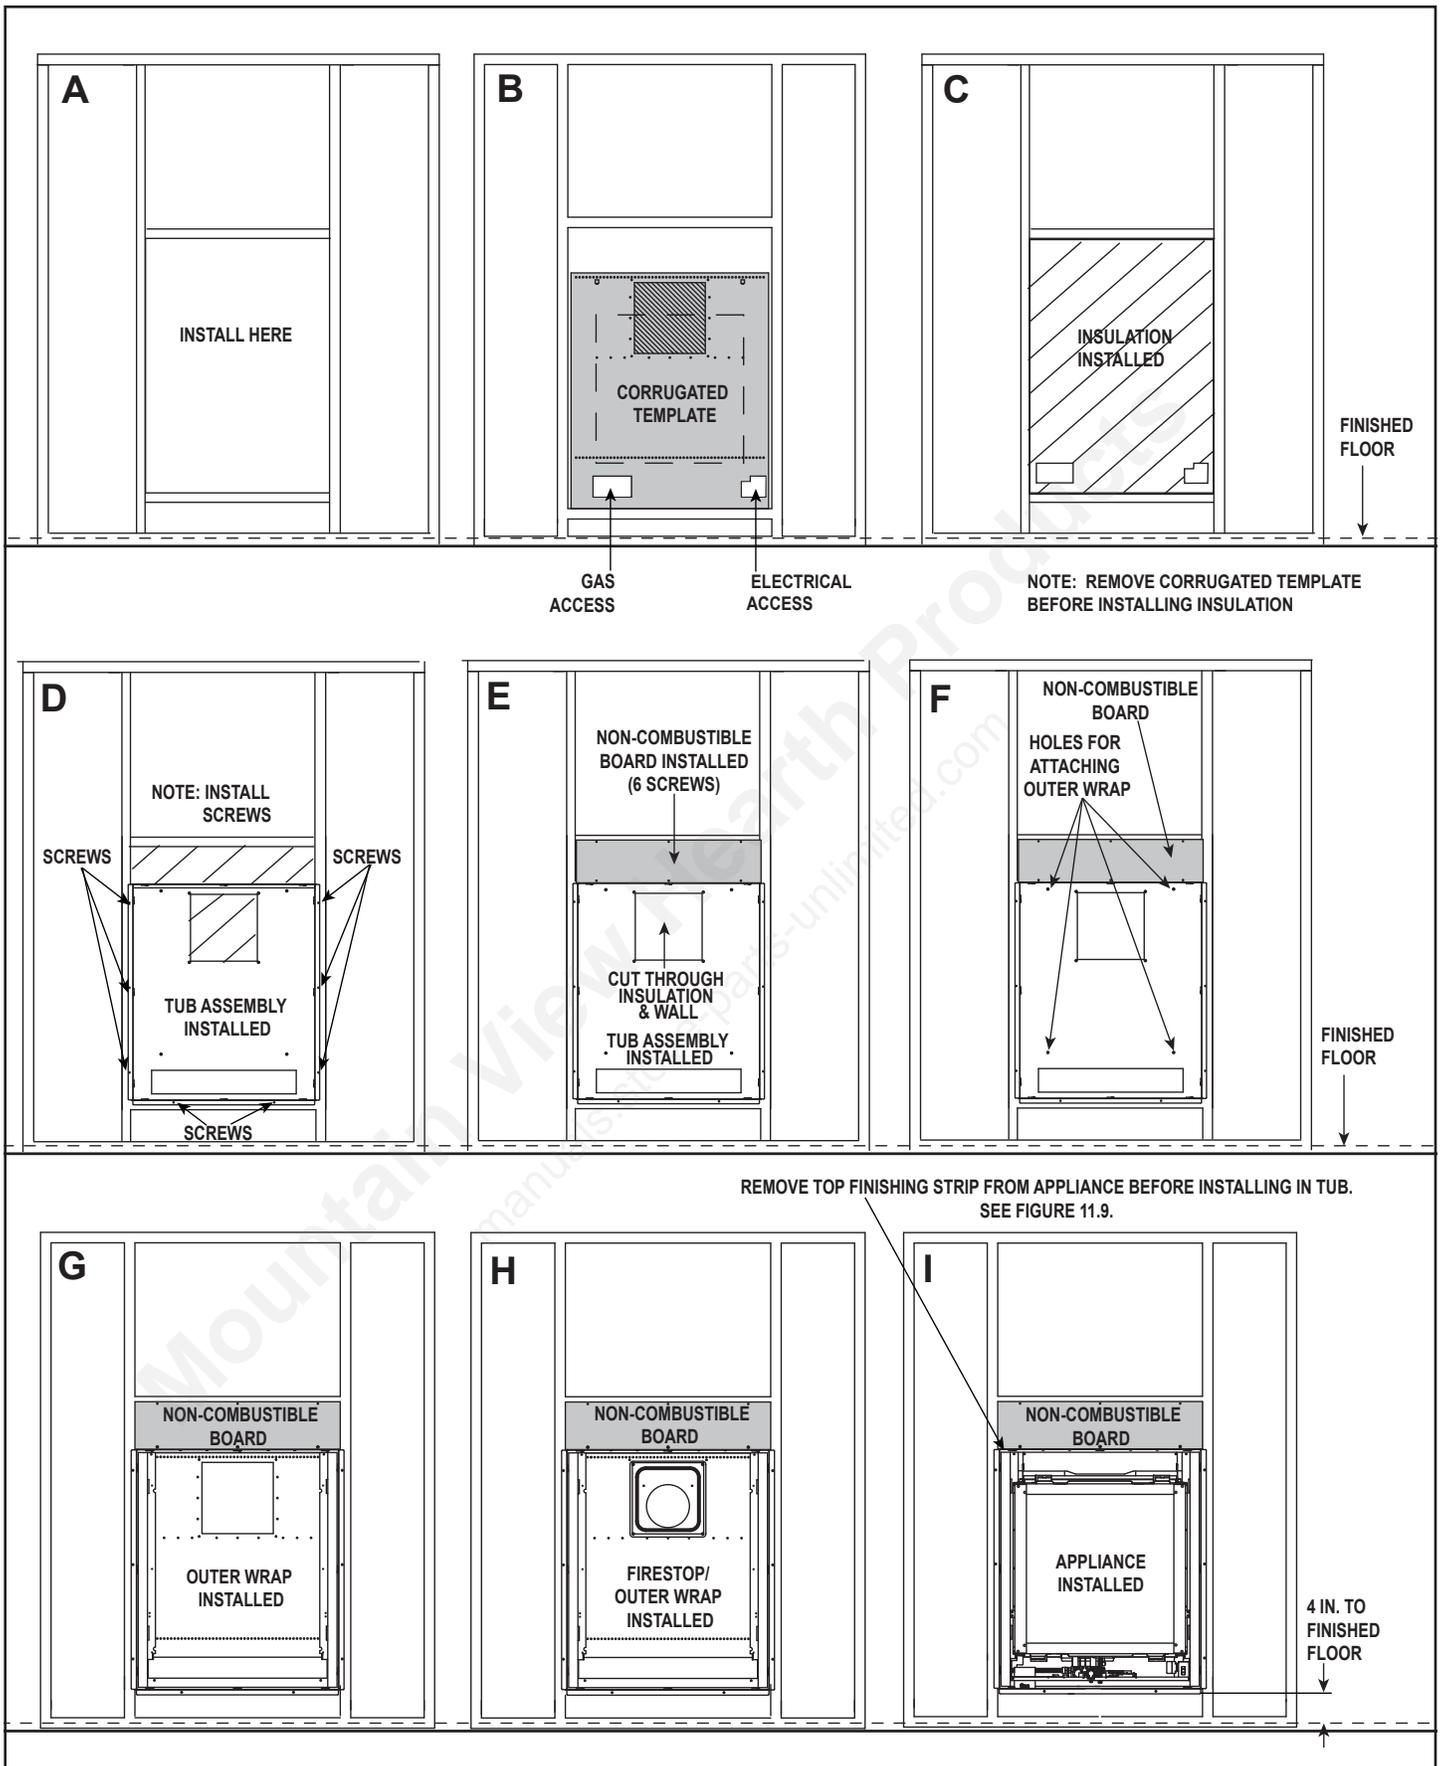
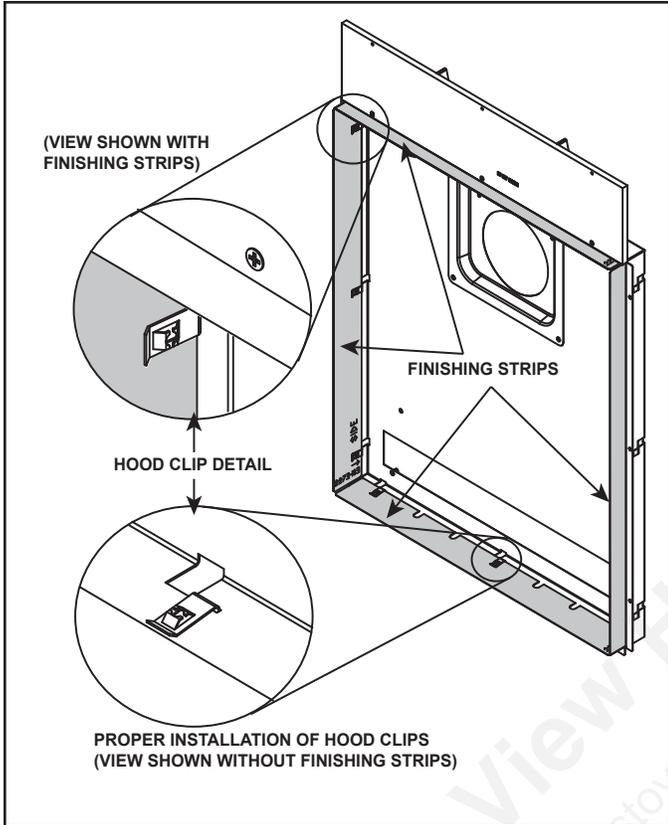
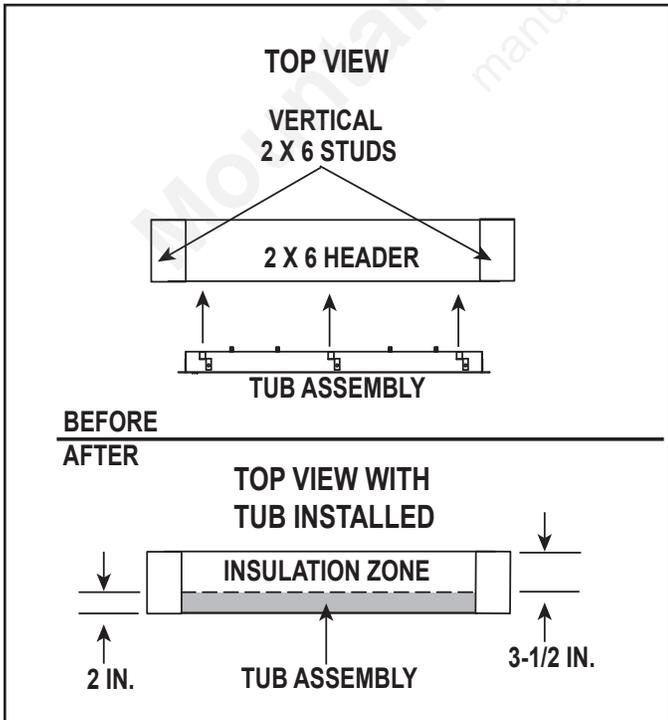

Figure 11.3. In-Wall Tub Installation
Figure 11.5 Finishing Strip Attachment & Proper Hood Clip Installation
Figure 11.6. In-Wall Tub Installation - Top View
4. Insulate wall per local code requirements. Use Thermax where an R19 insulation value is required. See Figure 11.3 (C) and Figure 11.6.
5. Install In-Wall Tub as shown in Figure 11.3 (D). The tub should set on the framing. Verify hood clips are in the correct orientation. See Figure 11.5. Ensure tub is level. Use eight screws (supplied with In-Wall Kit) to attach the tub to the framing.
6. Install the required non-combustible board (supplied) as shown in Figure 11.3 (E) using six screws.
7. Cut through insulation and wall as shown in Figure 11.3(E). Allow space for clearance for the firestop framing discussed in step 11.
13. Install finishing strips if applicable. See Figure 11.5.